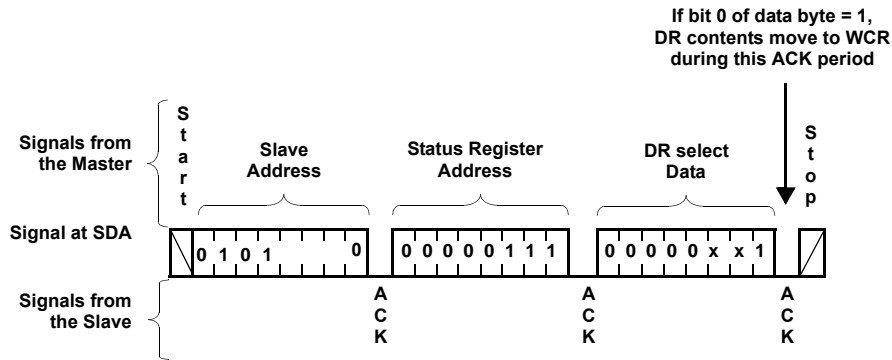

FIGURE 6. STATUS REGISTER WRITE (USES STANDARD BYTE WRITE SEQUENCE TO SET UP ACCESS TO A DATA REGISTER)
1. **Load the status register (using a write command) to select the row** (See Figure 6)